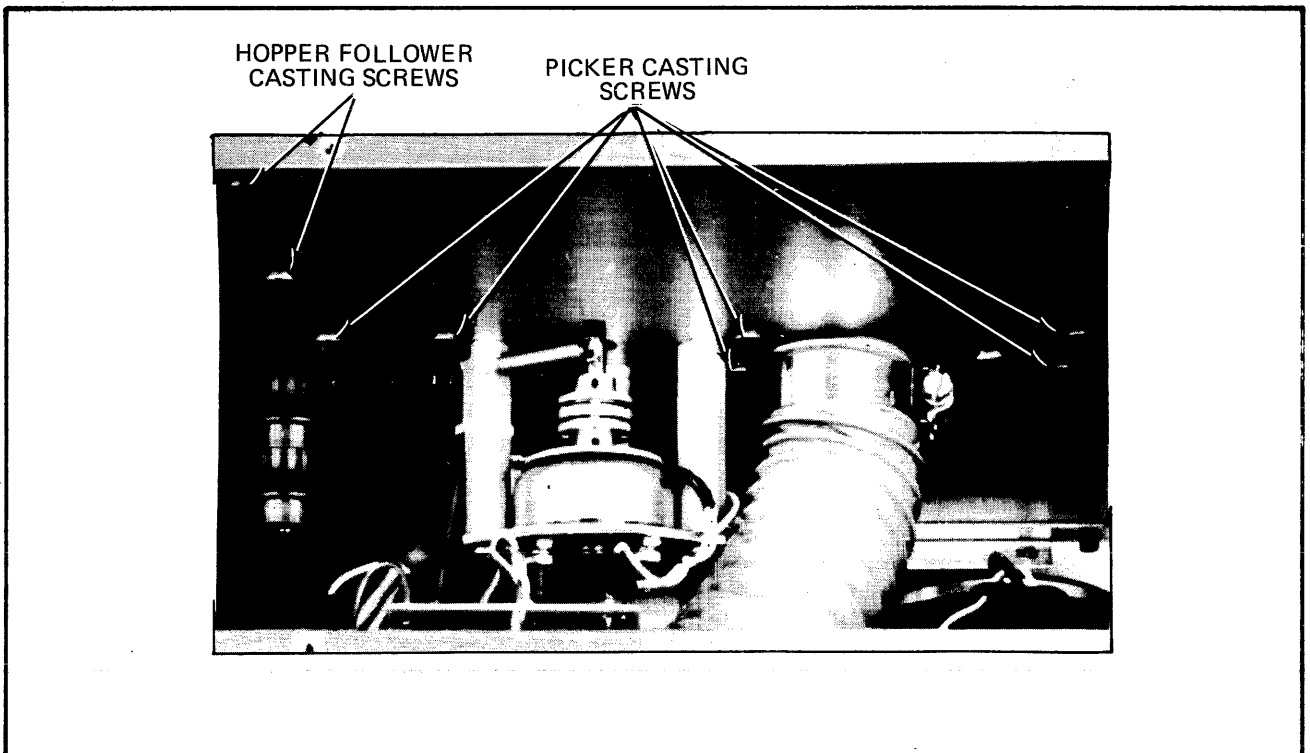

Figure 9-14. Picker Casting Removal
- 2. Remove two screws holding stacker follower casting, Figure 9-14, front of reader.
13. Remove six screws holding picker casting (Figure 9-14).
2. Using LOCTITE GRADE C, set all six mounting screws, Figure 9-14.